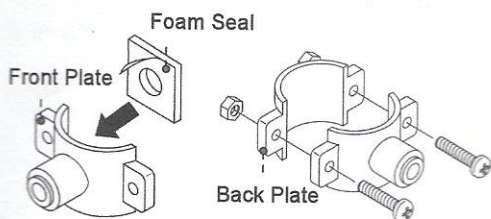

Figure 6
1. Stick the foam seal on the front plate of the drain saddle. Ensure that the hole of the foam seal is aligned with the hole of the front plate (Figure 6). Choose a spot on the drainpipe that is convenient for installing the drain saddle.